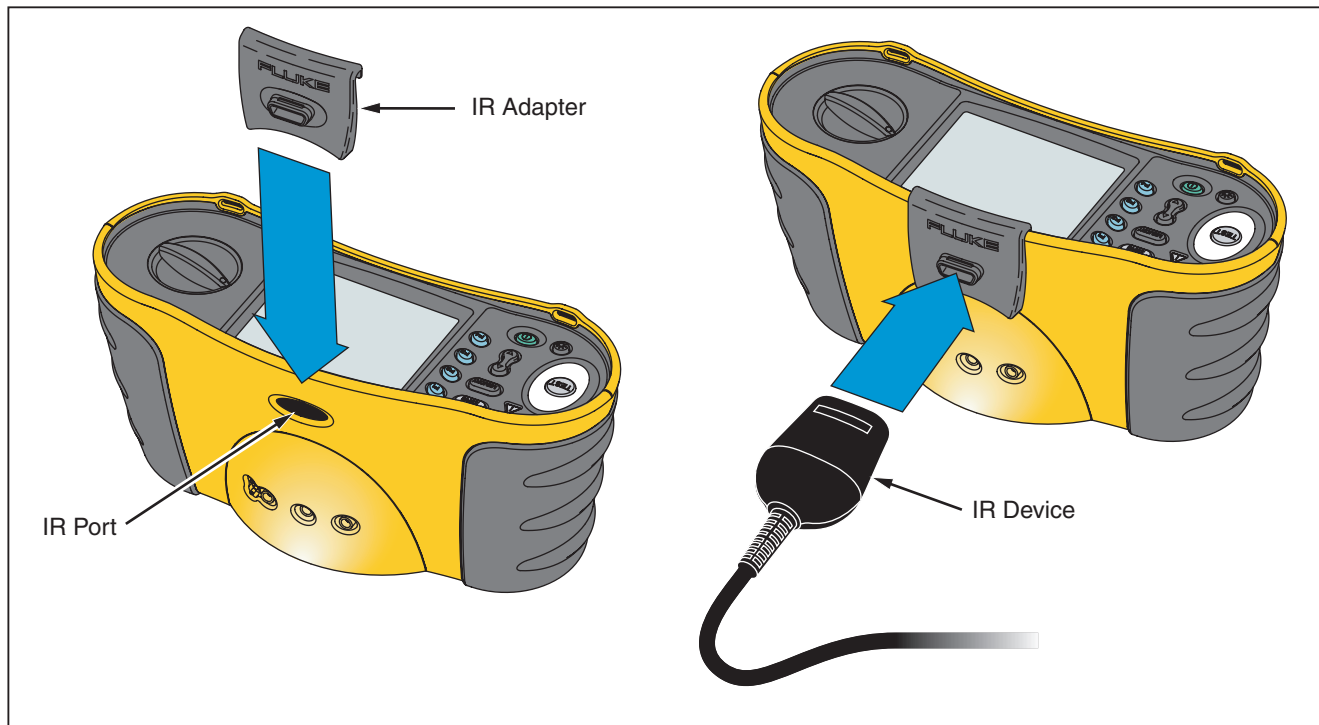

Figure 22. Attaching the IR Adapter
2. Attach the IR adapter and the device to the tester as shown in Figure 22. Be sure to align the IR adapter to the IR port on the tester.